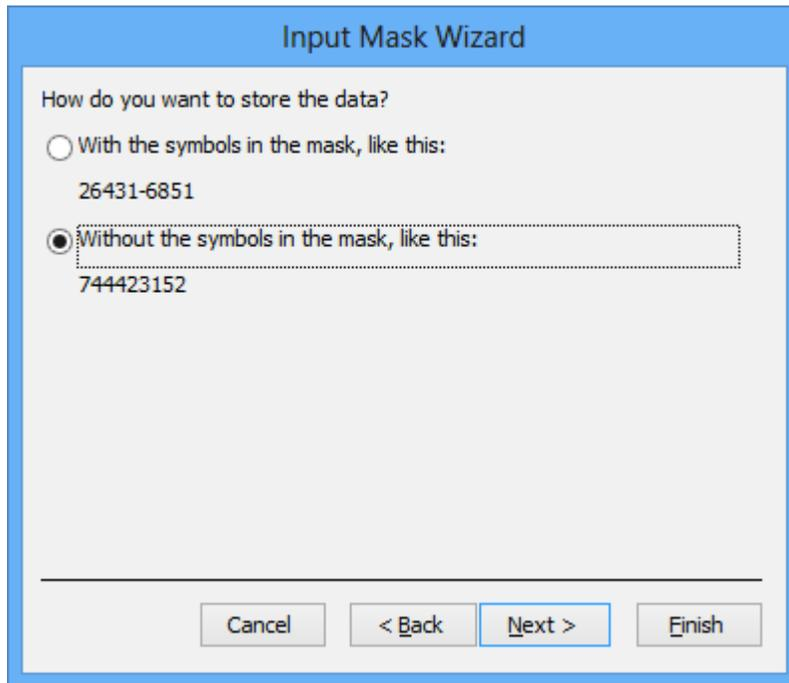

Figure 10: Storing Data Window of the Input Wizard
- The final step asks how to save the data, with or without the input mask symbols (Figure 10). It is recommended to store the data without the symbols to save memory and obtain faster processing.